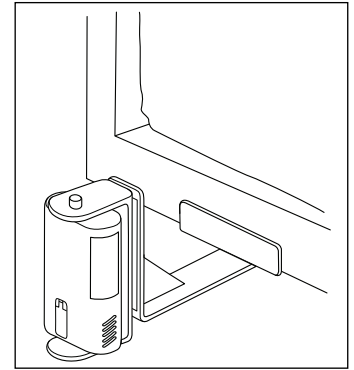

Figure 1
2. Carefully spread bracket open and remove unit. *Figure 1*